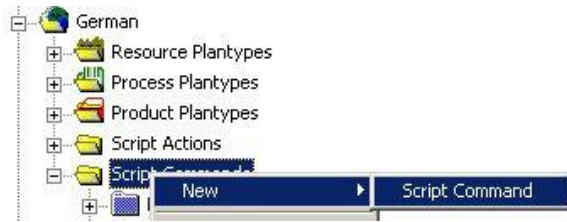

Figure 138: Create Script Command in the Plantype Set
- 3) Open the context menu, select **New > Script Command**. Please refer to the Figure 138.